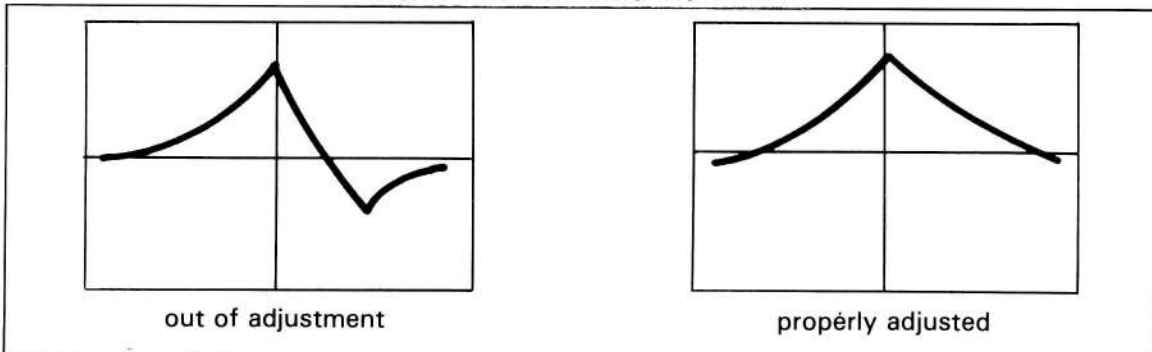

Figure 7-4. Symmetry Adjustment
f. Adjust A13C41 so that the trace is symmetrical about the marker. (See Figure 7-4.)
e. Adjust A13C30 so that the trace is symmetrical about the marker. (See Figure 7-4.)